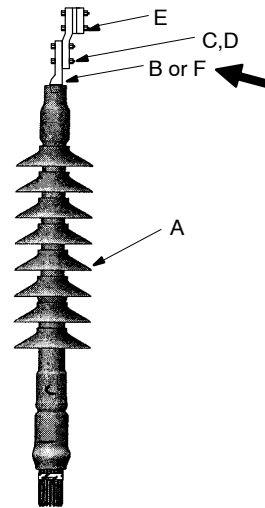

Figure 14
17. Attach the bronze four bolt lug to the compression or shear head bolt lug. Note: If the terminator lug is being attached directly to a flat surface the bronze connector may be omitted. (Figure 14)